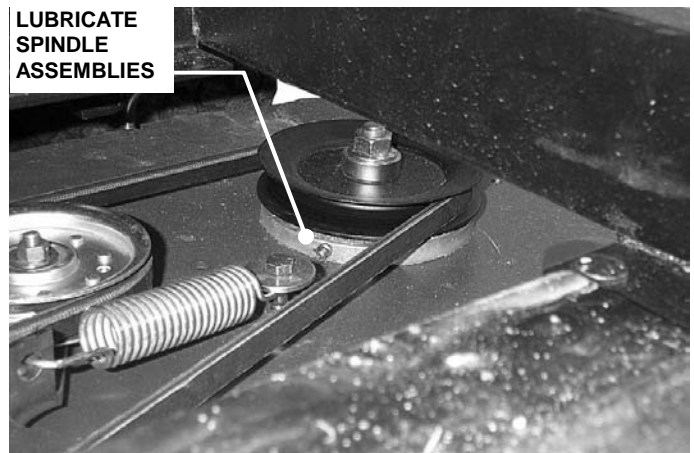

FIGURE 4.4
- b. Lubricate with Kendall NLGI No. 2 lithium grease or equivalent, from a grease gun until grease purges from vent located on spindle housing underneath deck. See Figure 4.4.